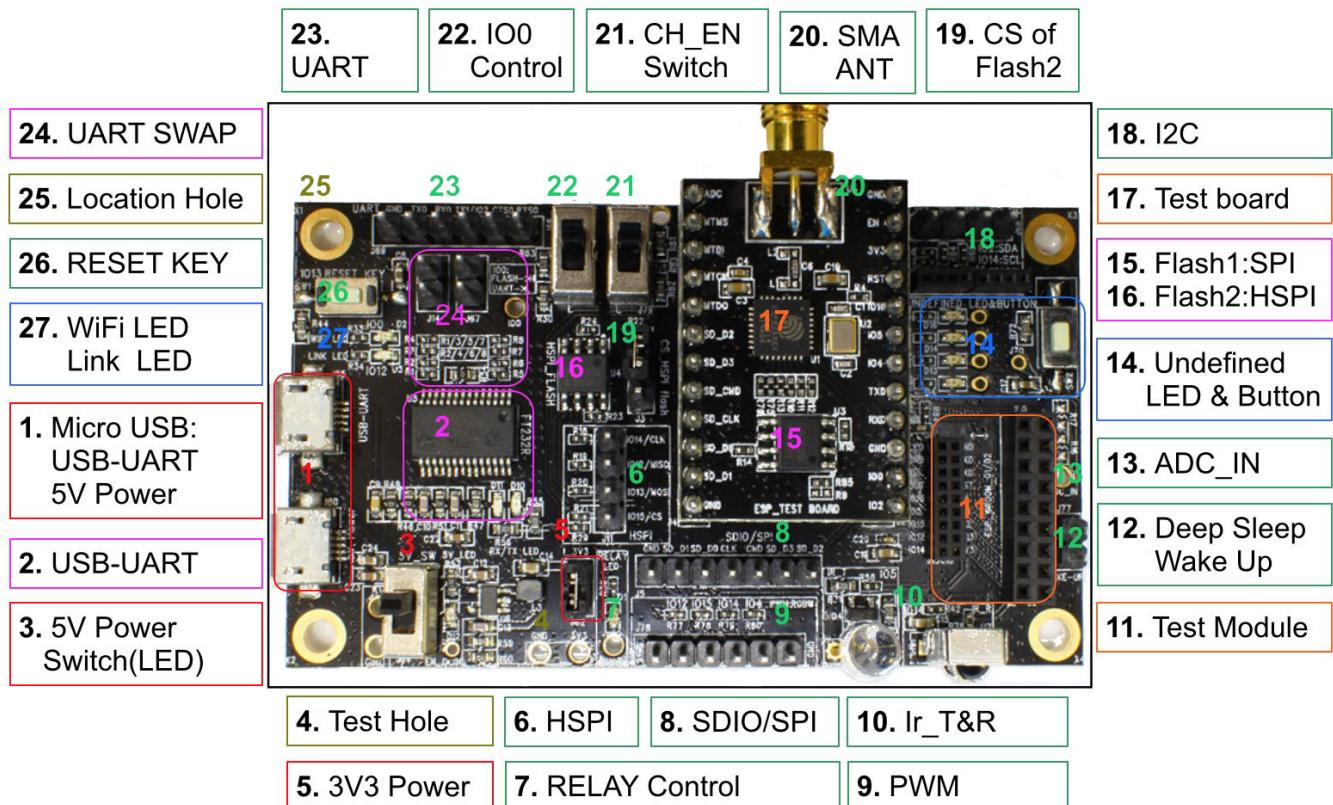

Figure 14 ESP8266EX Development Board
Espressif Systems provides ESP8266EX development board for quick evaluation and familiarisation of products and for secondary development for customers. The size of the demo board is 46mm*78.5mm. Functional components on the demo board are illustrated in the Figure 14 below.
Micro USB Interface	<p>There are two USB interfaces, one is used for 5V power supply, the other one is used for serial communication. (Refer to Part 1 in Fig. 14)</p> <p>Please pay attention to the notice on Page 25.</p>
Slide Switches	<p>Slide switches are used to convert voltage level of GPIO0 interface and chip enable pin CH_EN.</p> <p>It should be noted that when a slide switch is pulled up, the voltage level is high, while when pulled down, the voltage level is low. (Refer to Part 3, 21, and 22 in Fig. 14)</p>
Reset Buttons	<p>SW1 is connected to MTCK (GPIO13), and is used for resetting IoT applications. Function of SW2 has not defined yet. (Refer to Part 26 and 14 in Fig. 14)</p>
<p>Blue light (D3) is an indicator light for the communication of the server. (Refer to Part 27 in Fig. 14)</p>
<p>Green light (D1) is an indicator light for relay switch control. (Refer to Part 7 in Fig. 14)</p>
<p>Blue light (D11) and Red light (D10) indicate working status of Rx and Tx serial ports respectively. (Refer to Part 2 in Fig. 14)</p>
<p>Red light (D12) is indicator light for 5V power supply. (Refer to Part 3 in Fig. 14)</p>
Jumpers	<p>J82: It needs to be short-circuited using a jumper, so that 3.3V power supply can be connected to other posterior circuits. It can also be used to test the power of the circuit. (Refer to Part 5 in Fig. 14)</p>
<p>J3: It functions as chip selection for HSPI flash.</p> <p>HSPI flash is closed when the jumper is short-circuiting connected to the upper two needles, while HSPI is enabled when the jumper is short-circuiting connected to the lower two needles. (Refer to Part 19 in Fig. 14)</p>
<p>J14 and J67: When J14 is short-circuiting connected, it indicates that GPIO13 is connected to U0CTS; when J67 is short-circuiting connected, it indicates that GPIO15 is connected to U0RTS. (Refer to Part 24 in Fig. 14)</p>
<p>J77: When J77 is short-circuiting connected, it indicates that GPIO16 is connected to EXT_RSTB. This can be used to awake the device from deep-sleep mode. (Refer to Part 12 in Fig. 14)</p>
Flash	<p>Flash1 (the one mounted on the test board): Flash1 is connected to the chipset using SPI interface. Currently, Flash1 is mainly used when the chip is working under WiFi standalone mode. R9 and R85 can be used as chip select of Flash1. By default, Flash 1 is enabled. (Refer to Part 15 in Fig. 14)</p> <p>Flash2 (the one mounted on the baseboard): Flash2 is connected to the chipset using HSPI interface. HSPI is mainly used in SIP mode, in this application, ESP8266EX chipset is used as slave device, and is connected to the host MCU using the SPI interface that is defined in standard SDIO interface. HSPI is connected to Flash2. J3 can be used as chip select of Flash2. (Refer to Part 15 in Fig. 14)</p>
Modules for Testing	<p>There are several modules that can be connected with ESP-LAUNCHER development board for testing and development, including the test board that is mounted on the baseboard, modules with 1.27mm double-row needles, and 2.00mm double-row needles (including ESP-WROOM-01 and ESP-WROOM-02).</p> <p>It should be noted that pins of the modules should be connected with corresponding pins on the baseboard. Besides, only one type of module can be used at one time. (Refer to Part 17 and 11 in Fig. 14)</p>
- Step 2** Short-circuiting connect J82 (Part 5 in Fig. 14) so as to provide 3.3V power to the WiFi part.
- Step 3** Pull up the switch (Part 21 in Fig. 14) that controls CH_PD (the chip enable pin, valid when the voltage level is high).
- Step 4** If not necessary, short-circuiting connect J3 (the chip selection pin of HSPI flash, Part 19 in Fig. 14) so as to close HSPI flash.
- Step 7** Pull up the 5V power supply switch so as the supply 5V power. Red light (D12) is an indicator light for 5V power supply. (Part 3 in Fig. 14).
- Step 9** Flash boot: pull up the switch that controls GPIO0 (Part 22 in Fig. 14).
Blue light (D3) is an indicator light for the communication of the server. (Refer to Part 27 in Fig. 14)